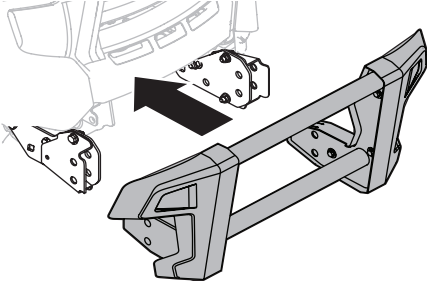

Figure 16
1. Align the brush guard assembly with the FastAttach™ brackets and push assembly together (Figure 16).